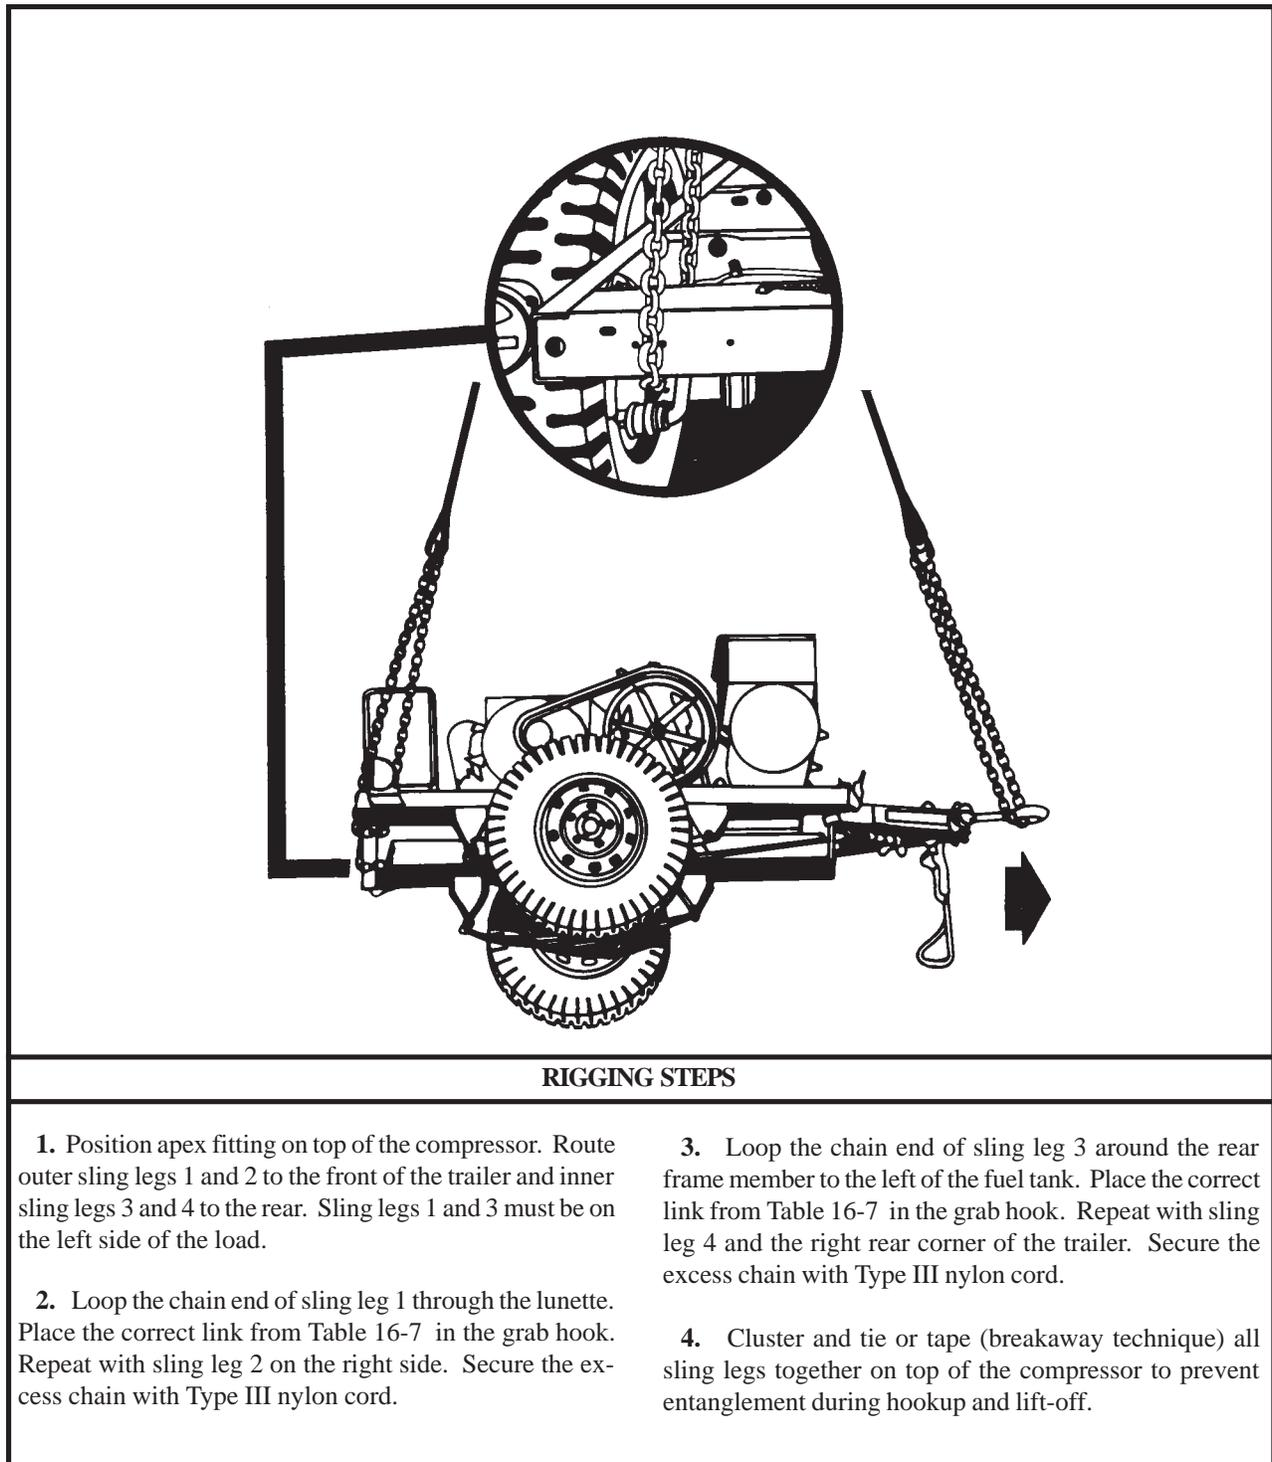

Figure 16-7. Trailer-Mounted Compressor, Reciprocating
(2) **Rigging.** Rig the load according to the steps in Figure 16-7.
(4) **Derigging.** Derigging is the reverse of the preparation and rigging procedures in steps d (1) and d (2).